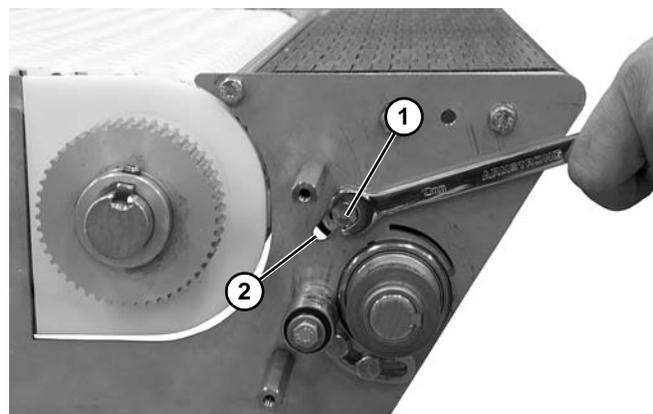

Figure 57
4. Loosen hex head screw (Figure 57, item 1) on both sides of the power transfer.
5. Slide idler assembly within slot (Figure 57, item 2) to remove tension on belt.